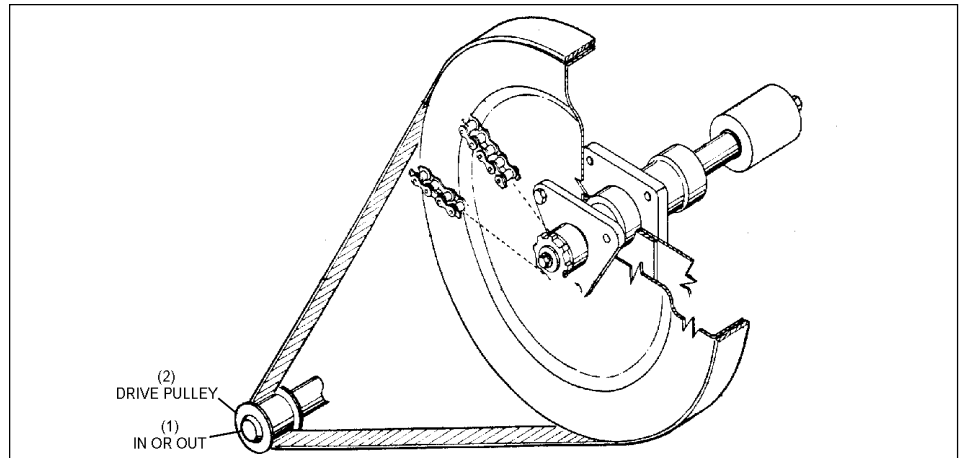

Figure 16. Adjust Tracking
- Tracking is properly accomplished by moving the two (2) drive pulleys on the motor shafts, in towards or out away from the motor. Position these drive pulleys so the belts run centered on their perspective driven pulleys. Refer to *Figure 16*.
- (1) IN OR OUT
- (2) DRIVE PULLEY